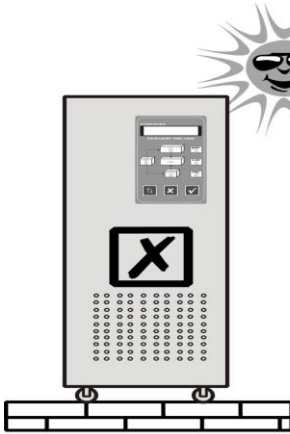

Figure 6
3. Do not install UPS in direct sunlight or rain. (Figure 6, 7)